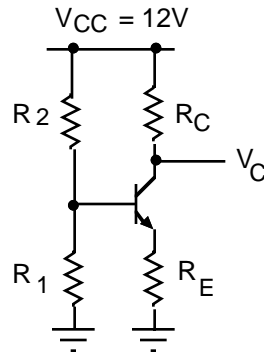

Fig 5.4
- Design a voltage divider biased circuit (Fig 5.4) with the following specifications: $V_{CC} = 12\text{ V}$, $I_C = 2\text{ mA}$, $V_C = 7.5\text{ V}$ and $V_E = 1\text{ V}$. Build your circuit. Compare calculated and measured values V_{BB} , V_E and V_C for both of your transistors.